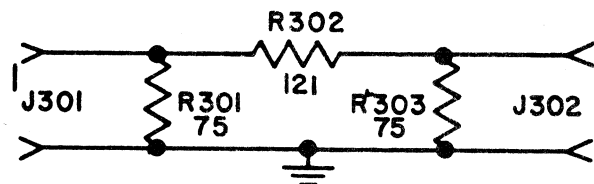

Figure 2-10. Schematic Diagram of the (5:1) Fixed Attenuator CN-223/URM-25D
(See figure 2-10)
a. The schematic diagram of the 5:1 fixed attenuator is shown in figure 2-10. This attenuator is designed to be used when the input impedance of the receiver under test, is 50 ohms, and consists of three resistors (R301, R302, R303) connected in a pi-network to give an equivalent resistance of 50 ohms when properly terminated in 50 ohms. It can readily be calculated that the output terminal voltage of this attenuator unit will be